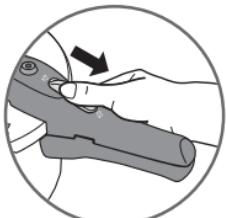

Fig 1
- Using your thumb, pull on the opening knob (E) and move it back to the - Fig 1